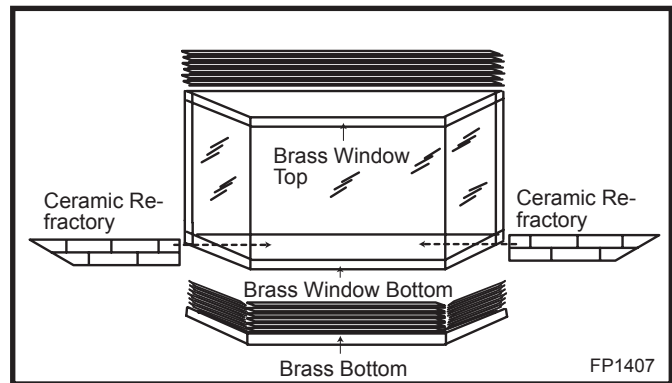

Fig. 43 DVHVAC36 bay window.
1. Remove existing bottom louvre assembly and hinges from fireplace. (Set aside the two (2) self tapping screws).
4. Place the two pieces of ceramic refractory along the base of the bay window. (Fig. 43)